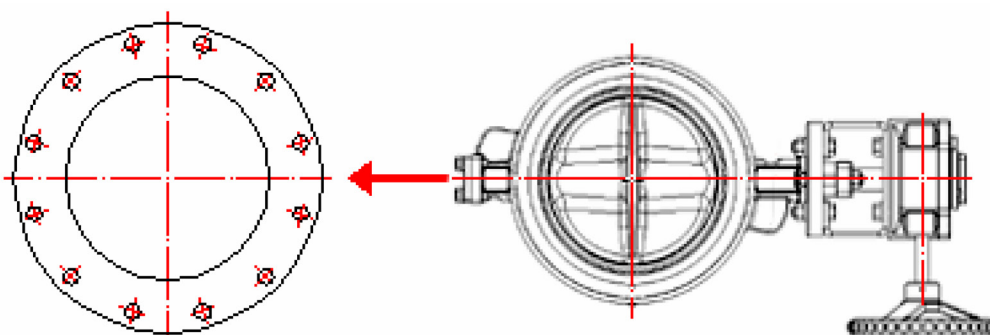

Fig.4
7.4. Please install the valve stem horizontally as (Fig.4), thus could prevent.